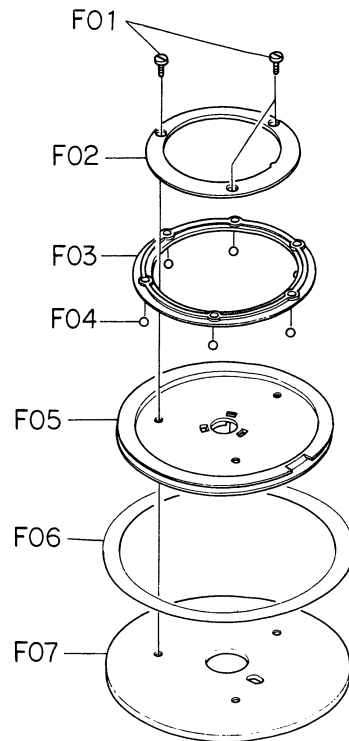

Fig. 3.5
Refer to Fig. 3.5. Remove dial pulley ass'y referring to above item 3.4. Remove F01, F02 (retainer holder) and F03 (ball retainer), then F04 (ball 4 mm). F07 (dial scale plate US) is assembled with F05 (dial pulley) by a lock mechanism of F05. Disassemble F05 by pushing the nails of the lock mechanism to the center, accessing from the bottom of F07. Bonded F06 (dial himelon) should be replaced after removal.